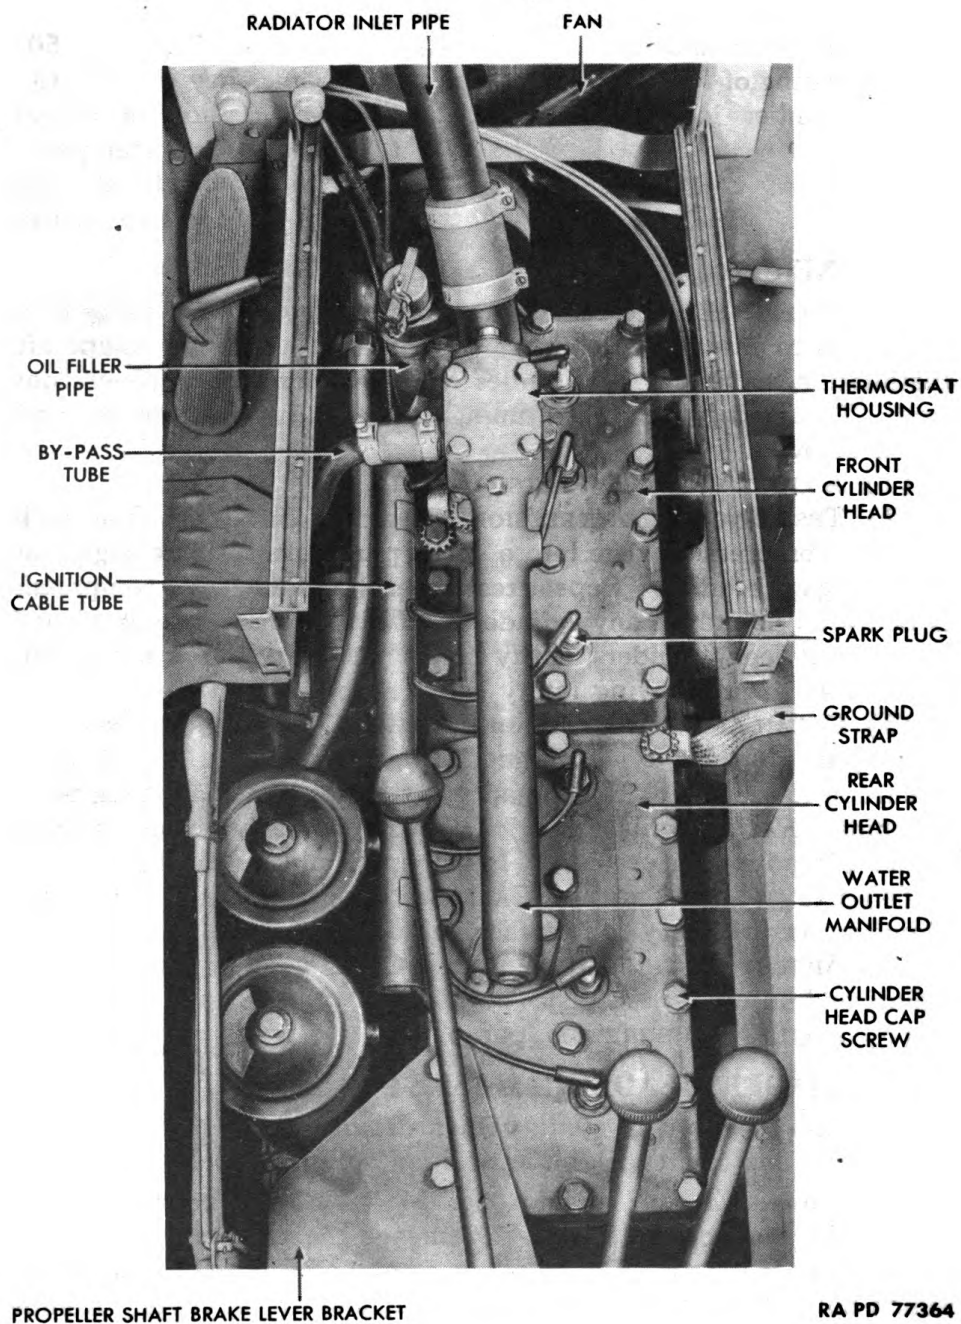

Figure 13 — Installed Engine — Top View
d. **Remove Oil Filler Pipe (fig. 13).** Remove the cylinder head cap screw which secures oil filler pipe bracket to cylinder head. Lift straight up on filler pipe to pull it from cylinder block. Twist pipe to clear hose connection, and lift it from engine.
e. **Disconnect Water Hoses (fig. 13).** Loosen hose clamps on radiator inlet pipe hose and upper bypass hose. Work radiator hose up onto radiator inlet tube. Pull bypass hose from outlet elbow at thermostat housing.
f. **Remove Water Outlet Manifold (fig. 13).** Remove four cap screws and lock washers which attach water outlet manifold to the two cylinder heads, and lift manifold and gaskets from cylinder heads.
g. **Disconnect Propeller Shaft Brake Lever Bracket (fig. 13).** Remove the two cylinder head cap screws which anchor brake lever bracket to cylinder head. Remove two cap screws and lock washers which secure bracket to top of bell housing, and tip bracket back out of way.
h. **Remove Ignition Cable Tube (fig. 13).** Remove the two cylinder head cap screws which attach ignition cable tube to cylinder head. Disconnect the six ignition wires from spark plugs. Tip tube and wires out of way, toward left side of truck.
i. **Remove Spark Plugs (fig. 13) (par. 83 b).**
j. **Disconnect Fan Bracket From Cylinder Head (fig. 13).** Remove the cylinder head cap screw which attaches iron strap from fan bracket adjusting screw to cylinder head. Push iron strap to one side.
k. **Remove Cylinder Heads (fig. 13).** Remove remaining cylinder head cap screws. Lift both cylinder heads and cylinder head gaskets from engine.
b. **Connect Fan Bracket** (fig. 13). Pull iron strap from fan bracket adjusting screw into position on front cylinder head left front cap screw hole. Install cylinder head cap screw fingertight.
c. **Install Ignition Cable Tube** (fig. 13). Place ignition cable tube in position along left side of cylinder heads. Aline cable tube front bracket with cap screw hole third from rear of front cylinder head. Place radio bonding strap over screw hole under bracket. Aline rear bracket with screw hole third from front of rear cylinder head. Install two cylinder head cap screws, fingertight, through the brackets.
d. **Install Propeller Shaft Brake Lever Bracket** (fig. 13). Tip propeller shaft brake lever bracket forward into position on rear cylinder head and bell housing. Install two left rear cylinder head cap screws, fingertight, through bracket. Install and tighten securely the two lock washers and cap screws which attach bracket to bell housing.
e. **Install Oil Filler Pipe** (fig. 13). Insert lower end of oil filler pipe into its opening in cylinder block. Aline bracket with cylinder head cap screw hole second from front on left side of front cylinder head, and install cap screw fingertight.
f. **Install Cylinder Head Cap Screws** (fig. 13). Install remaining cylinder head cap screws fingertight. Be sure to put radio bonding strap on cap screw at right front corner of rear head. Beginning at center and working toward ends of cylinder head, tighten cylinder
g. Install Water Outlet Manifold (fig. 13). Place water outlet manifold gaskets in position on top of cylinder heads. Place manifold in position on gaskets. Install the four lock washers and cap screws which hold manifold to cylinder heads, and tighten cap screws evenly and securely.
h. Connect Water Hoses (fig. 13). Work radiator inlet pipe hose down onto outlet elbow at thermostat housing, and tighten both clamps. Work bypass hose onto its flange on thermostat housing, and tighten both hose clamps.